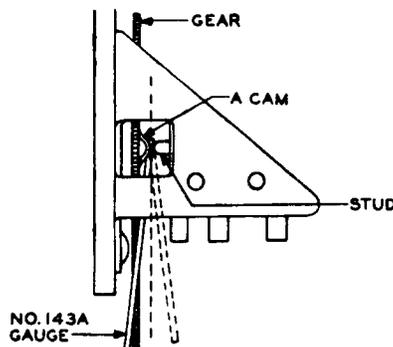

Fig. 24 - Method of Adjusting "A" Cam
- (1) To adjust the position of the "A" cam, loosen the "A" and "C" cam clamping screws with the No. 551A wrench. Rotate the gear, as required, to obtain access to the setscrews. With the gear rotated from the normal position, insert one end of the No. 143A gauge between the "A" cam and the stud of the A contact spring assemblies. Allow the gear to return to its normal position. Then without moving the gear, insert the KS-6854 screwdriver into the slot at the front of the gear. Move the adjusting lever of the "A" cam up or down, as required, with the screwdriver. Remove the screwdriver. Check the adjustment as follows. Insert first one end of the No. 143A gauge and then the other end between the "A" cam and the stud. The cam is correctly located, if regardless of the end inserted, the near end of the gauge lies approximately the same distance from but on opposite sides of a line, which passes through the end of the stud on the A contact spring assembly and parallel to the
- gear wheel as shown in Fig. 24. Tighten the "C" cam clamping screw, located just back of the slot in the gear. Rotate the gear and tighten the "A" cam clamping screw. Adjust the "C" cam as outlined in (2).
(2) To adjust the "C" cam after adjusting the "A" cam, loosen the clamping screw just back of the gear slot, or if only the "C" cam is being adjusted, loosen both "C" cam clamping screws with the No. 551A wrench. Adjust the position of the "C" cam with the KS-6854 screwdriver inserted in the slot in the front of the gear. Tighten the clamping screw just back of the slot in the gear securely. Check the adjustment of the cam with the armature operated and using the P-220366 dental mirror to view the engagement of the "C" cam and C spring finger from the top of the timer. The No. 510C test lamp may aid in observing the cam position. If necessary, again adjust the cam to obtain the proper position. Tighten both "C" cam clamping screws securely.